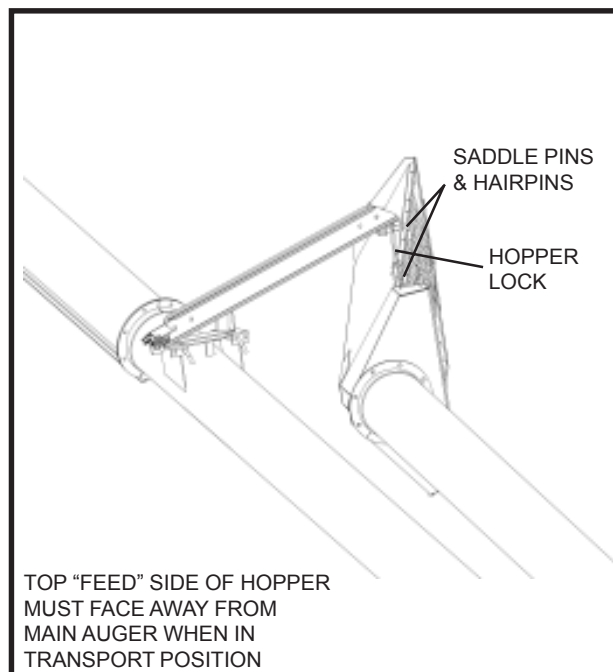

Figure No. 39
3. Ensure that the intake feed hopper is raised into transport position and secured with hopper lock in place with saddle pins and hairpins (see **Figures No. 39 and No. 29**). **DO NOT OPERATE AUGER WITH INTAKE HOPPER IN TRANSPORT POSITION. THIS WILL DAMAGE THE U-JOINT.**
INTAKE FEED SIDE OF HOPPER MUST FACE AWAY FROM MAIN AUGER WHEN IN TRANSPORT (see **Figure No. 39**).